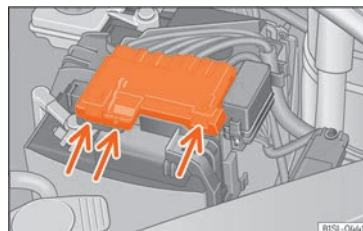

Fig. 165 In the engine compartment: remove the lid from the vehicle's battery.
- Open the bonnet and remove the cover protecting the front part of the battery by pressing on the locking tabs in the direction of the arrows »» **Fig. 165.**